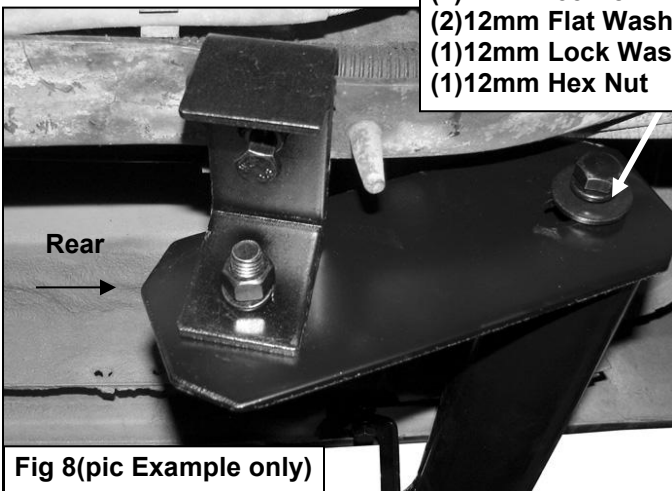

Fig 8(pic Example only)
5. Select a passenger rear lower bracket and attach to the rear mounting plate with (1)12mmx35 Hex Bolt,(2)12mm Flat Washers,(1)12mm Lock Washer,(1)12mm Hex Nut. **(Figure 8&9)**. Do not tighten hardware at this time.